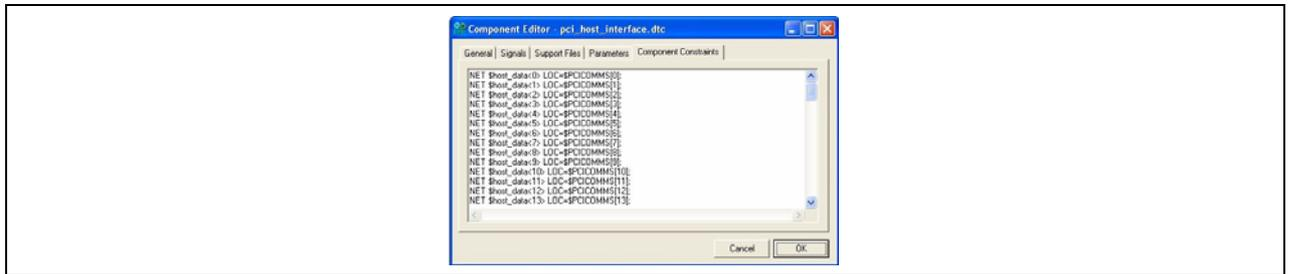

Figure 61: Component Constraints tab in Component Editor
12. This brings up the Component Editor again and **Figure 61** shows the various signals constrained to the appropriate pins within a device. These constraints also include timing constraints against global clock resources.